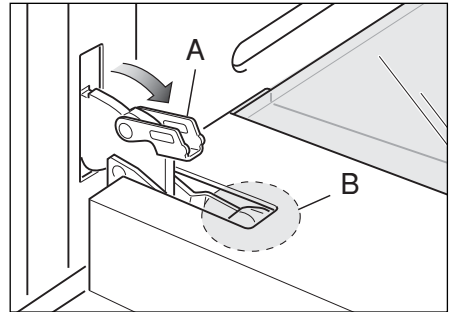

Fig.27b
- Open the lever "A" completely on the left and right hinges (Fig. 27b).